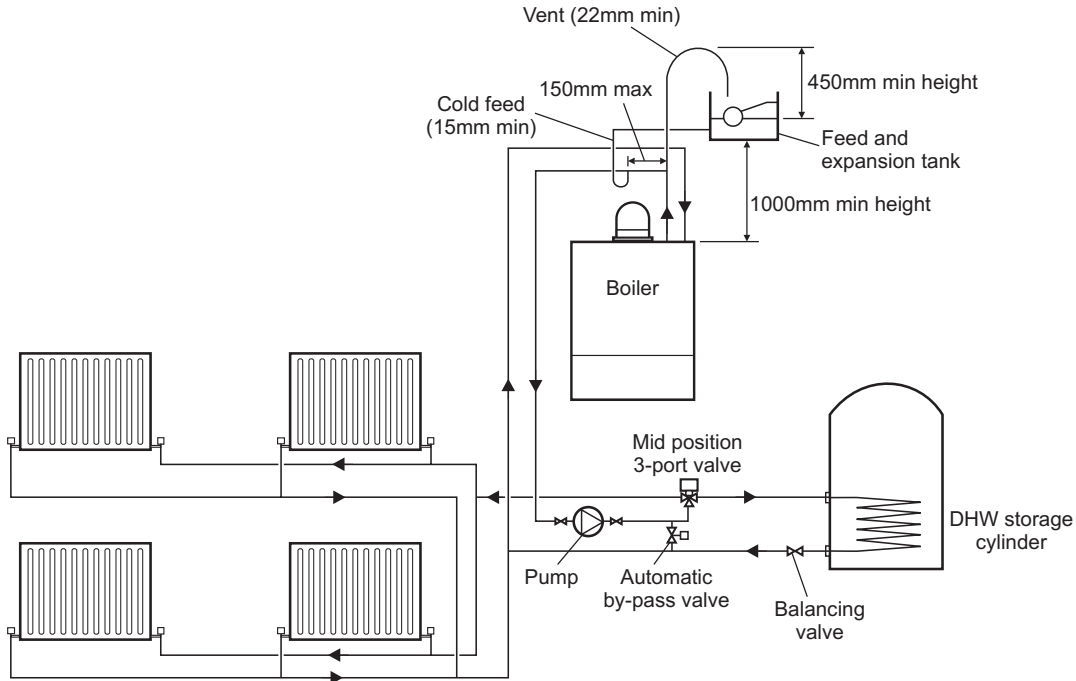

Fig. 2.7 - Open system with Y-Plan
3.7 CENTRAL HEATING SYSTEM - Fig. 2.7 and 2.8
It is important that the relative positions of the pump, cold feed and open vents are as shown in Fig. 2.7.
The system design pressure (cold) should be set to 1.0 bar. This pressure is equivalent to a static head (see Fig. 2.7) of 10.2 metres of water.